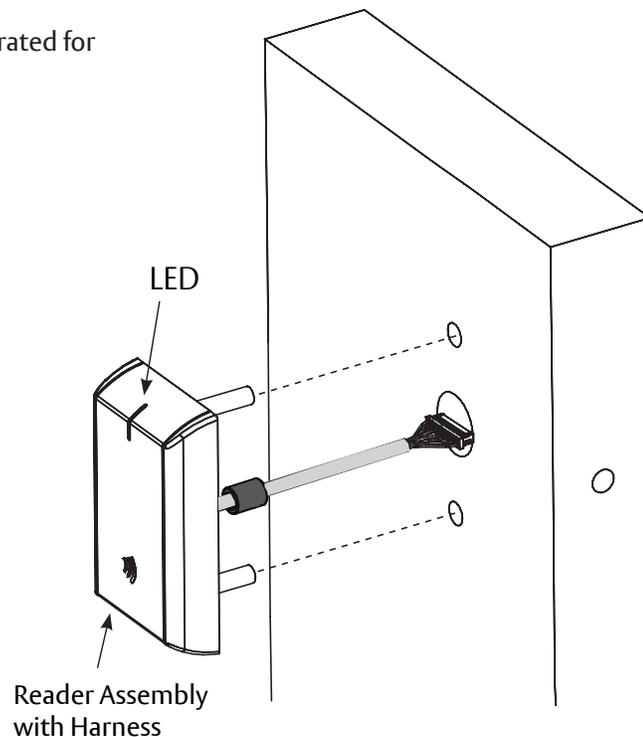

Figure 18a
1. Orient reader so LED lens is at top (Figure 18a).
- Do not run wires through bottom flange hole in plate - it will damage wires and controller connector (Figure 18a), and (Figure 18c).